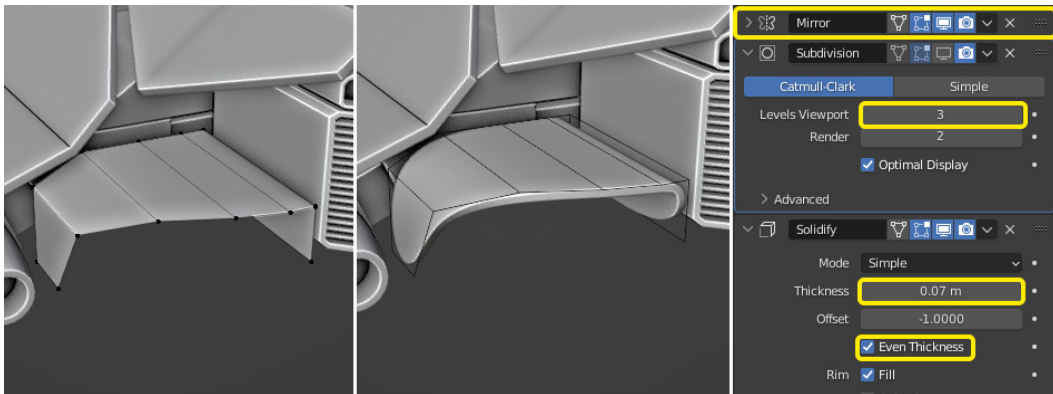

Figure 5.55 – Diffuser
4. Add an object to the side of the wing to make this part of the ship appear bulkier. Feel free to get creative and make the shape different from what you see in *Figure 5.55*. You can also remodel the armor panels to whatever shape you like so that it better fits the ship.